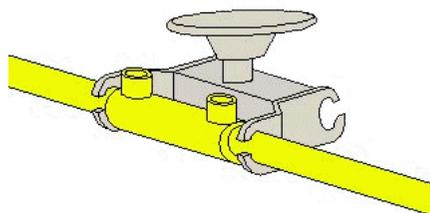

Figure D13 – Clamping/Aligning of the service pipe and fitting.
36. Assemble the alignment clamp on to the pipe, visually check pipe alignment in all planes and where applicable check free rotation of the coupler to create a stress free joint (Figure D13).